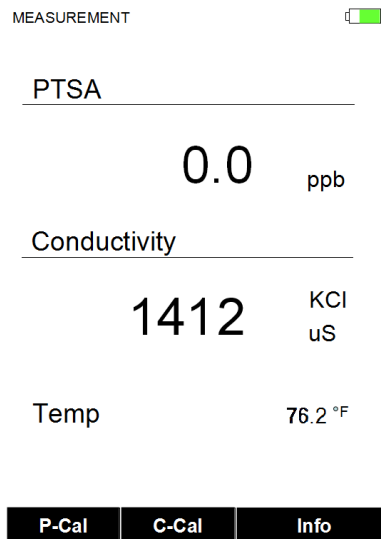

Figure 14
- 3) A screen similar to Figure 14 will appear. The unit is reading both conductivity and PTSA. The PTSA will be low or zero if the standard is solely a conductivity one. The conductivity reading should be close but not necessarily the same as the value of the standard added.
- 9) Or, press **Exit (> key)** to abandon calibration, and return to the basic read mode (Figure 14). No calibration will be done.